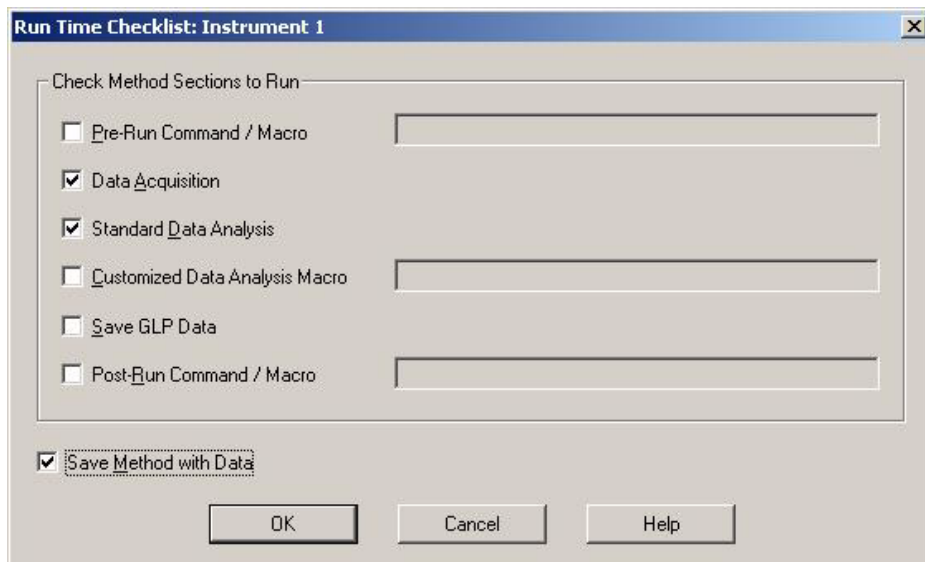

Figure 21 Run Time Checklist: Save Method with Data
- There are no data file specific methods ACQ.M and DA.M stored. Saving information about the original acquisition is only possible by including this information in the report or by selecting "Save Method with Data" from the method's runtime checklist (Figure 21). With this option the acquisition method will be stored as RUN.M in each data file.